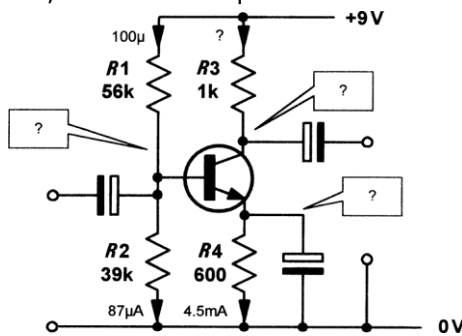

Figure 7.54 See Question 7.7
- 7.7 Determine the unknown current and voltages in Fig. 7.54.